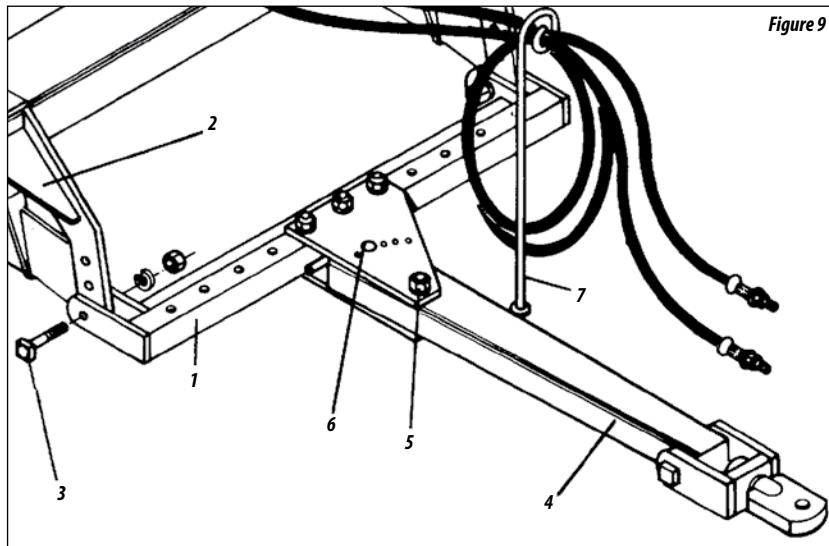

Figure 9
- 01 - Place the complete crossbar item 1 Figure 9, in the front frame item 2 using the screws Item 3.
- 02 - Place the coupling header item 4, between the upper and lower plates of the cross bar, fixing it with the screw item 5, washer and nut item 6. Place the adjustment pin item 6.